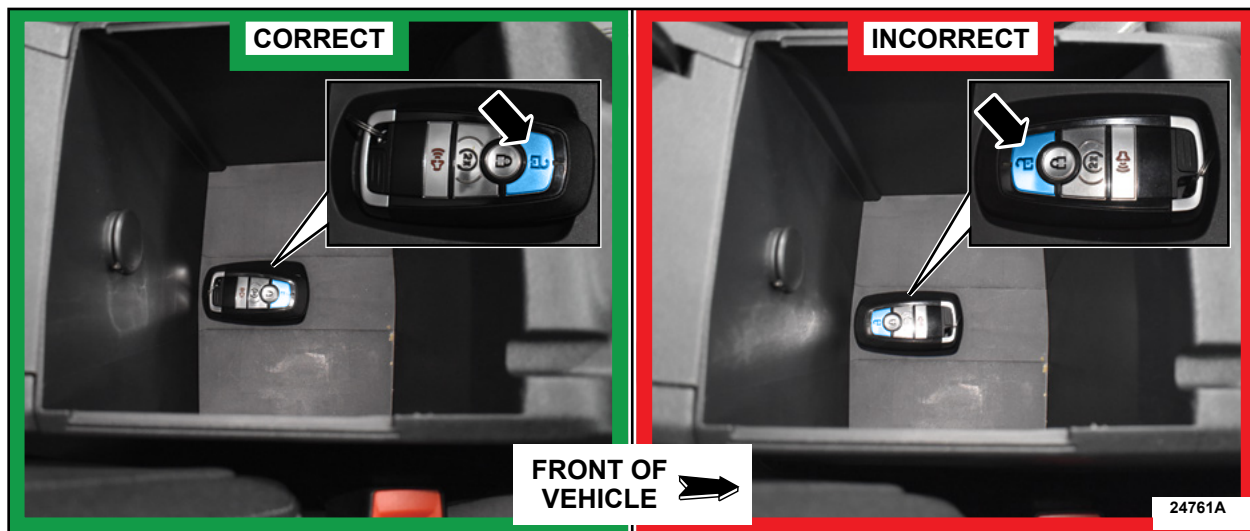

FIGURE 2
10. When prompted, place the key fob that is to be programmed with the unlock button towards the front of the vehicle onto the backup transceiver located in the center console under the rubber mat then select **OK**. See Figure 2.